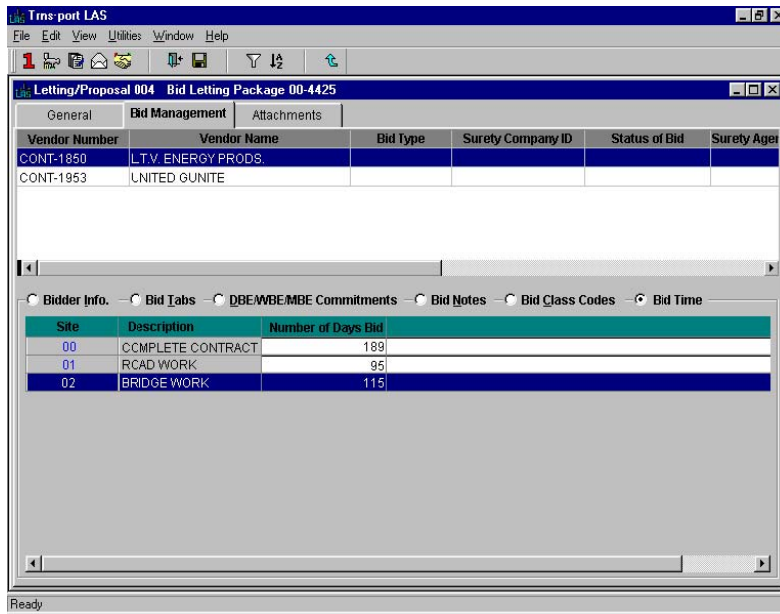

Figure 8-22. Bid Management Tab with Bid Time Detail Window Displayed
3. Click the BID MANAGEMENT tab and then click the BID TIME option button. Trns•port displays a list of all the contract sites with site descriptions and any Number of Days Bid currently associated with the bidder (see Figure 8-22).